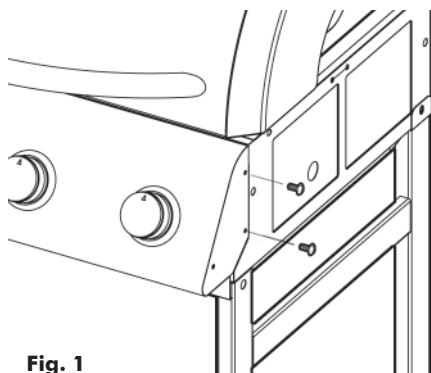
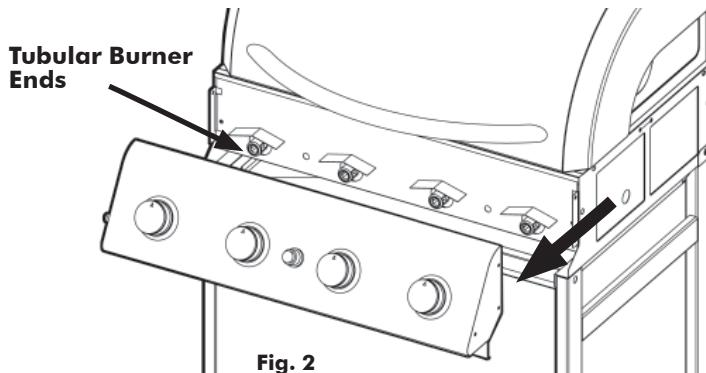

Fig. 1
Fig. 2
4. Figures 1, 2, 4 and 4a show the grill at assembly step 7, prior to attaching the Side Tables, and illustrate the initial steps in the “FIRST TIME USE LEAK TEST”.
Detach the Control Panel from the Grill Body/Firebox by removing the two 5/32" Bolts from each end. (Fig. 1) Gently pull the Control Panel away from the Body until Valves disengage from the Tubular burner ends. (Fig. 2) Support the Control Panel to keep tension off of the igniter wire leads or detach the wire leads from the Starter Button module.
10. Re-attach the wire leads to the Igniter Button. Replace Control Panel around flanges at Bowl ends and align bolt holes on each side. Replace and retighten all bolts. (Fig. 1)